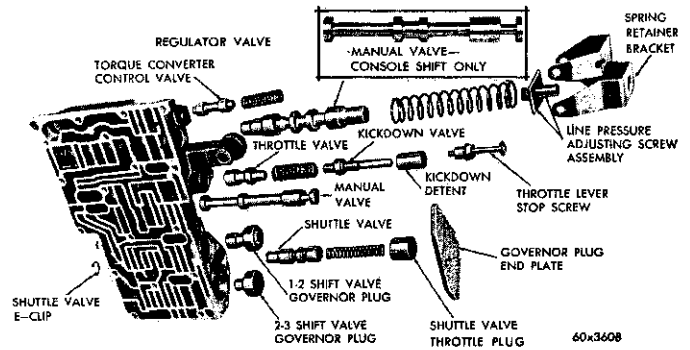

Fig. 60—Valve Body—Lever Side (Disassembled)
(13) Remove the throttle lever stop screw assembly (Fig. 60), being careful not to disturb the setting any more than is necessary.
(14) Remove the kickdown detent, kickdown valve, throttle valve spring and the throttle valve (Fig. 60).
(15) Remove the governor plug end plate (Fig. 60). Tip up the valve body to allow the shuttle valve, throttle plug, spring, shuttle valve, and the shift valve governor plugs to slide out into your hand.
(3) Place the 1-2 and 2-3 shift valve governor plugs in their respective bores (Fig. 60). Install the shuttle valve, spring and shuttle valve throttle plug. Install the governor plug end plate and tighten the five retaining screws to 28 inch-pounds torque.
(4) Install E-clip on the end of the shuttle valve (Fig. 60). Install the shuttle valve cover plate and tighten the four retaining screws to 28 inch-pounds torque.
(7) Install the throttle valve and spring (Fig. 60). Slide the kickdown detent on the kickdown valve (counterbore side of detent toward valve), then install the assembly in the valve body.
(8) Install the throttle lever stop screw (Fig. 60), and tighten lock nut finger tight.
(9) Install the manual valve in the valve body (Fig. 60).
NOTE: The insert in Figure 60 shows the manual valve used in the transmissions with the console shift.
(14) Install the torque converter valve and the regulator valve. (Fig. 60).
(15) Position the torque converter valve spring and regulator valve spring over the ends of their respective valves. Place the line pressure adjusting screw assembly on the end of the regulator valve spring with long dimension of nut at right angles to the valve body.
(16) Install the spring retainer bracket, making sure the converter valve spring is engaged on the tang and position squarely in the bracket. Tighten the three bracket retaining screws to 28 inch-pounds torque.